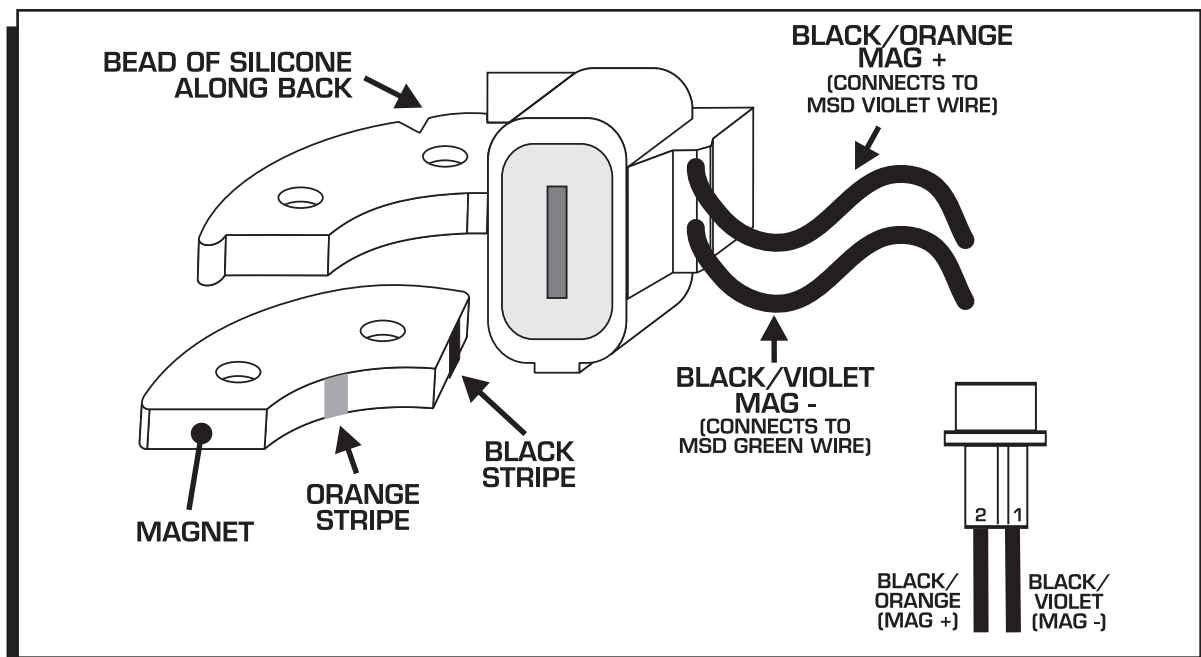

Figure 1 Assembling the Pickup.
1. Position the magnet on the bottom of the pickup mount. The black stripe on the side of the magnet **must** face towards the pickup (Figure 1). The air gap between the pickup and reluctor should be between .018" - .030".
4. Route the wires through the base of the distributor and strain relief. Install the wires into the supplied 2-pin connector as shown in Figure 1.